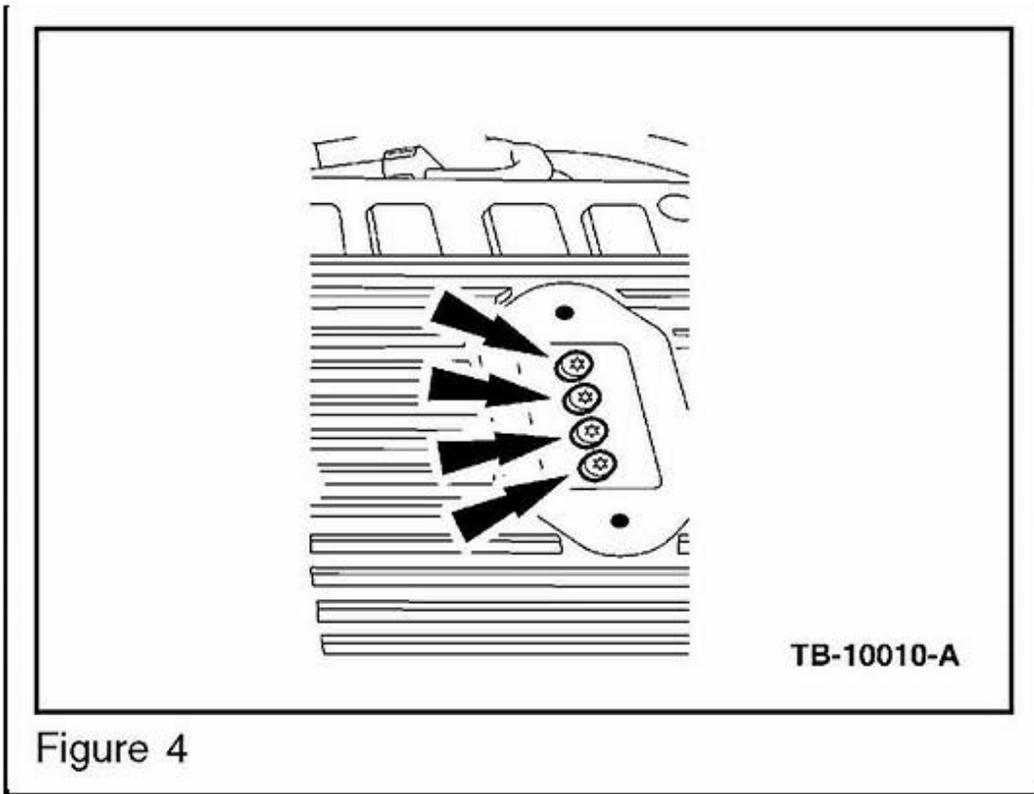

Figure 4
b. If FICM has four (4) connector screws, proceed to Step 4 for inspection and repair. (Figure 4)
4. Remove the four (4) Torx 110 buss post retaining screws . (Figure 4)